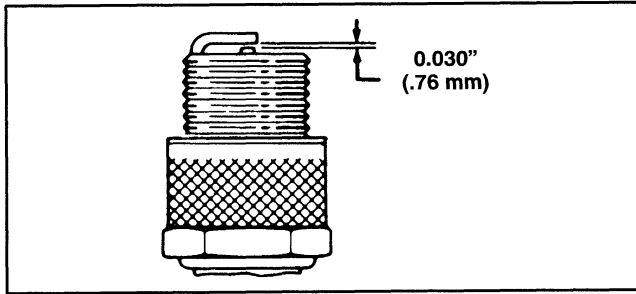

Figure 19
3. Set air gap at 0.030" (0.76 mm) (Fig. 19). Install correctly gapped spark plug and gasket seal. Tighten plug firmly to 14 ft–lb (19 N·m).